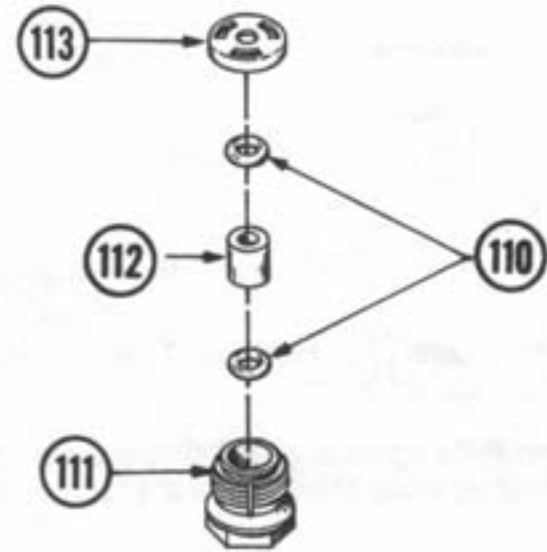

Figure 43
1. Place one O-ring (110) into cartridge body (111) making sure that the O-ring (110) sits flat in the bottom of the cartridge body (111). Insert cartridge spacer (112) into cartridge body (111) followed by a second O-ring (110). Once the second O-ring (110) is inserted and is flush with the top of cartridge body (111), "snap" cartridge cap (113) onto cartridge body (111). Fig. 43